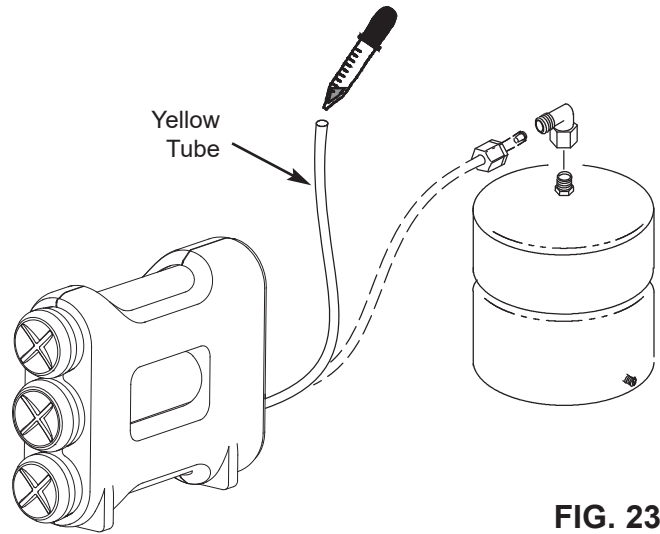

FIG. 23
Complete the following steps to sanitize the system. See Fig. 23.
4. Add 3 ml. of bleach into open end of yellow tube. Handle bleach according to bleach manufacturer's recommendations. See Fig. 23.